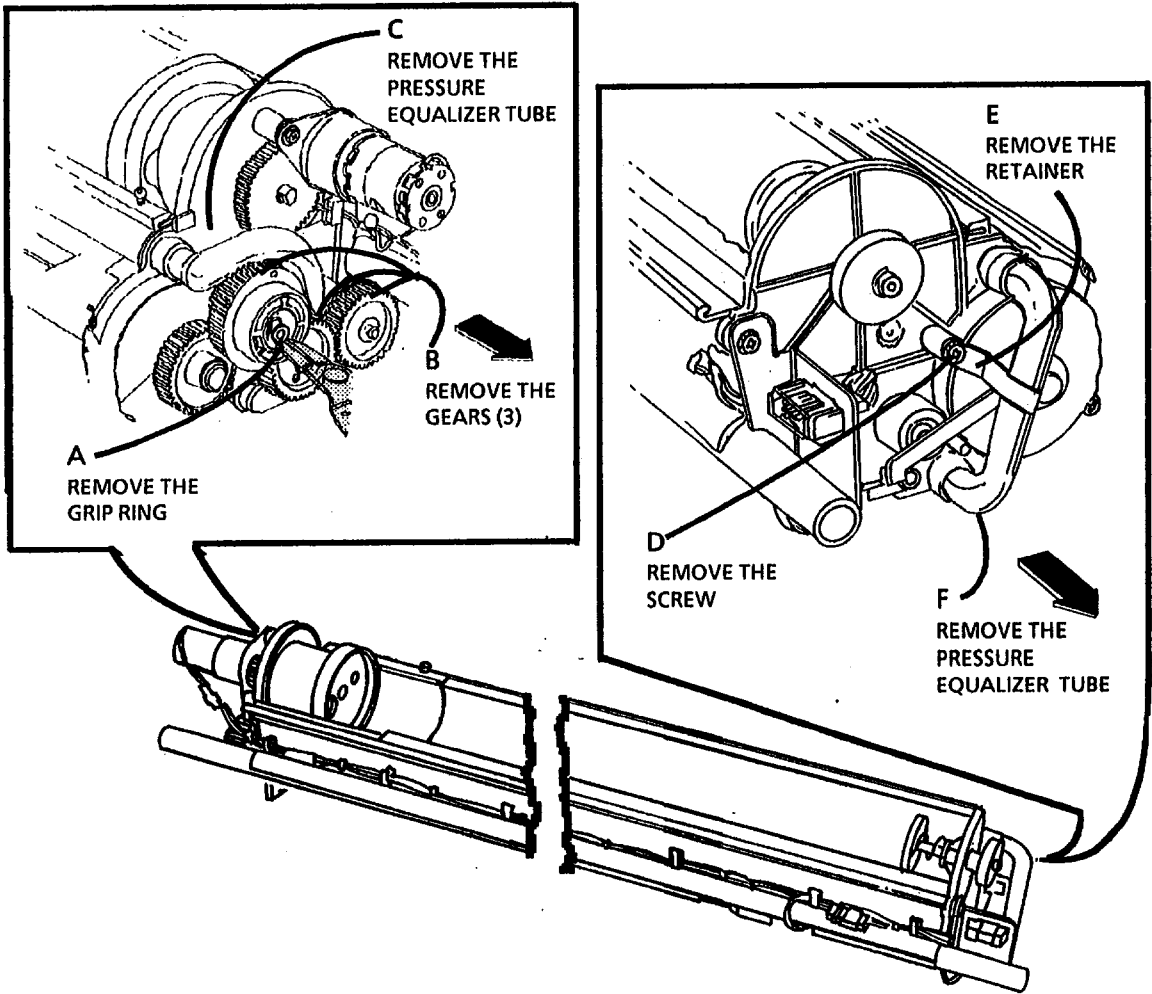

Figure 10. Remove the Pressure Equalizer Tubes
16. (Figure 10): Remove the Pressure Equalizer Tubes.